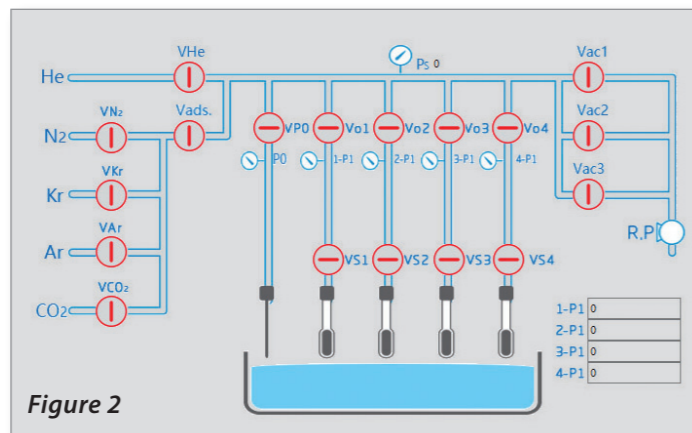

Figure 2
- Each measurement station has **its own pressure transducer** (optional) and each includes its own 1000 Torr  $p_0$  transducer (Figure 2).